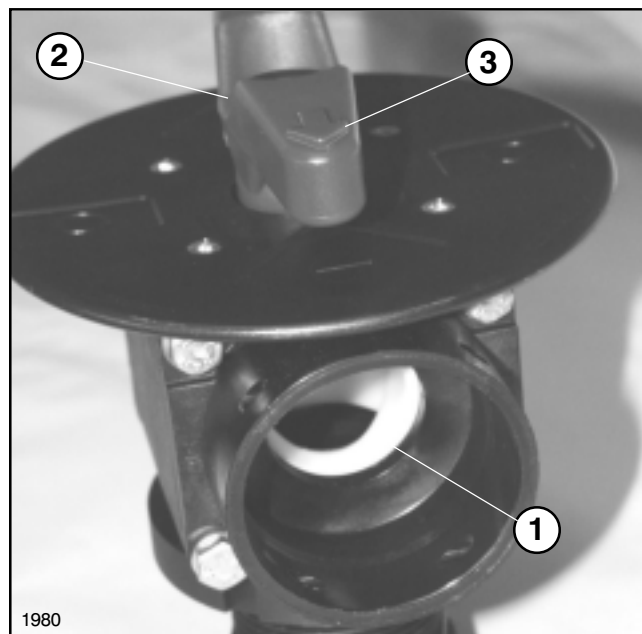

FIG. 4
5. Verify that the arrow on the Three-Way Valve handle is in line with the large hole in the Ball inside the Valve. If not, remove the screw from the center of the Handle and reorientate the Handle. Replace Screw. See FIG. 4, page 4.
8. Attach Valve ASM to the Valve Bracket using the two (2) existing #10-16 x 5/8 long screws provided.
9. Attach Support Bracket to Valve Bracket 11. using two (2) 1/4-20 x 3/4 cap screws and two (2) flange nuts.
10. Attach Valve Bracket and Support Bracket to the tank valve Tee Bracket Assembly, using two (2) existing 1/4-20 x 3/4 cap screws and two (2) 1/4-20 x 3/4 cap screws and two (2) flange nuts from Parts Bag.